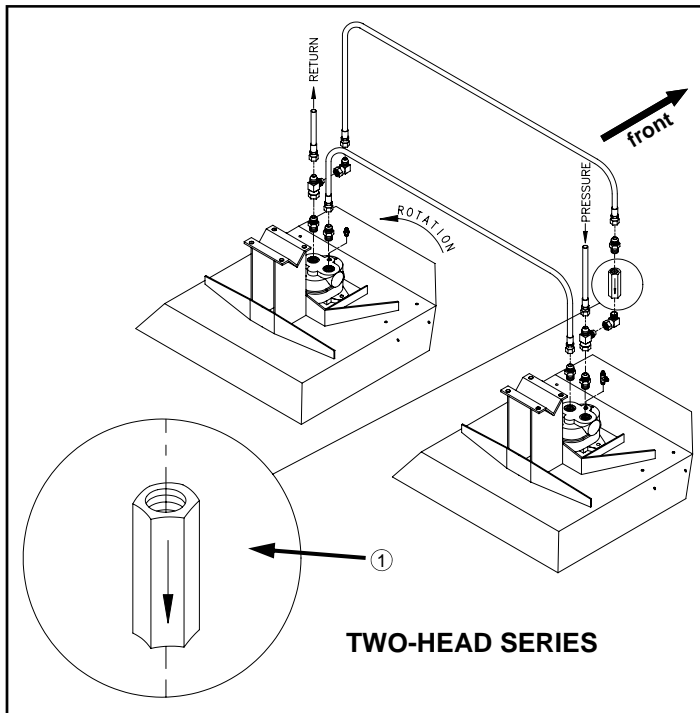
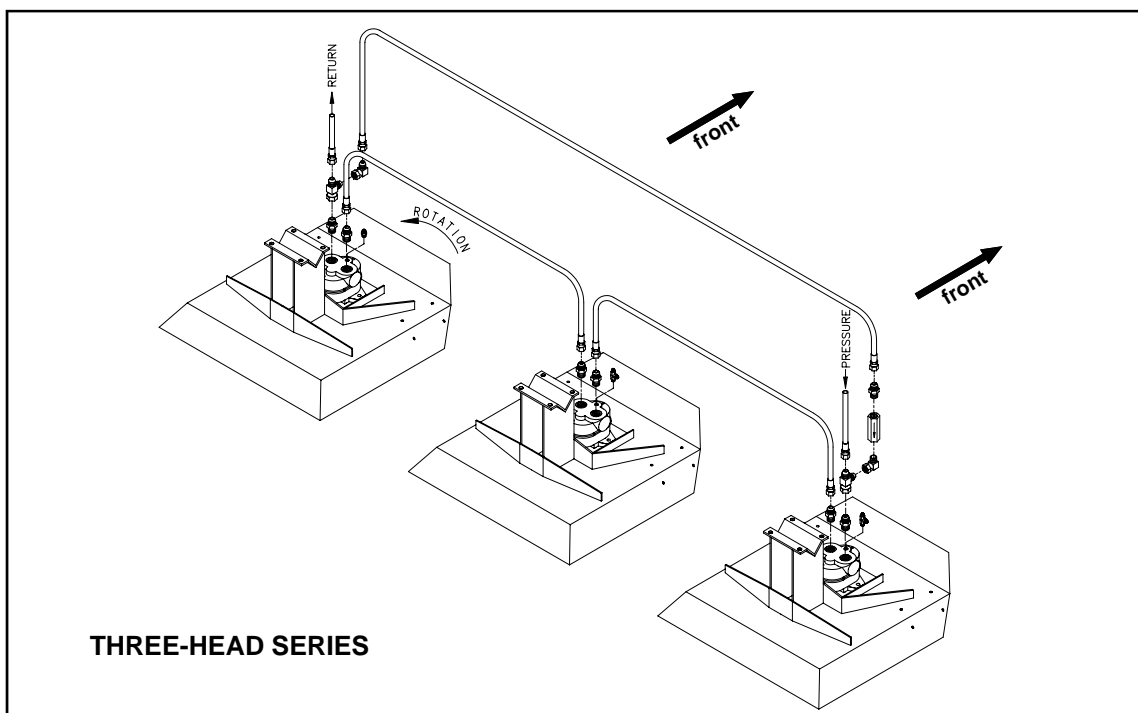

FIG 3.21
FIG 3.22
Hydraulic hoses on cutter heads should be hooked up so blades on heads mounted left of operator rotate according to figure 3.21 and figure 3.22 (counter-clockwise from above). Refer to 2101 SPRAYER/DETASSELER Parts Manual for correct hardware, hose lengths, and hydraulic schematic.
Care should be taken when installing check valve (fig. 3.21, item 1) on cutter motor so the flow arrow is oriented correctly (either two-head or three-head series).